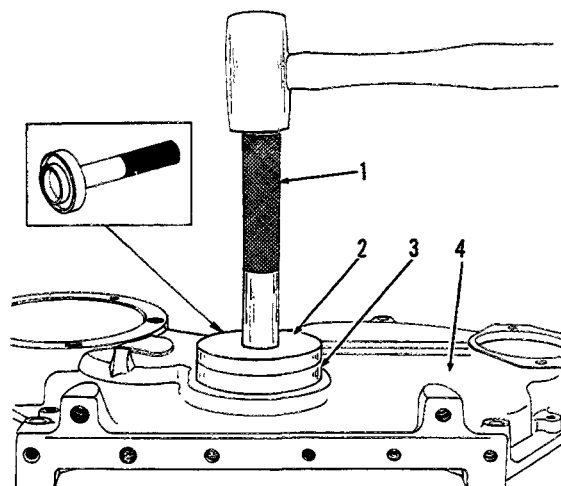

FIG. 3 INSTALLING CRANKSHAFT FRONT OIL SEAL (T-52154)
7. Position the cover (front of cover up) solidly on wooden blocks, and position a new seal (open side down) squarely in the bore. Drive or press the seal into the cover bore until it bottoms, Fig. 3; use of the illustrated tool will properly place the driving force on the outer edge of seal.
9. Install the pump assembly as shown in Fig. 3; install the lock-bolt and torque it to 44-49 lbs. ft. (6.08-6.77 kg-m). Position the discharge tube and tighten it securely.